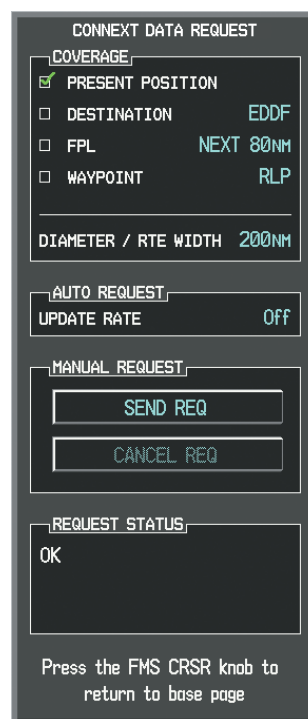

Figure 6-67 Connxt Data Request Window
- 4) Turn the large **FMS** Knob to highlight the desired coverage option(s) and press the **ENT** Key to check or uncheck one of more of the following coverage selections (Figures 6-67, 6-68):